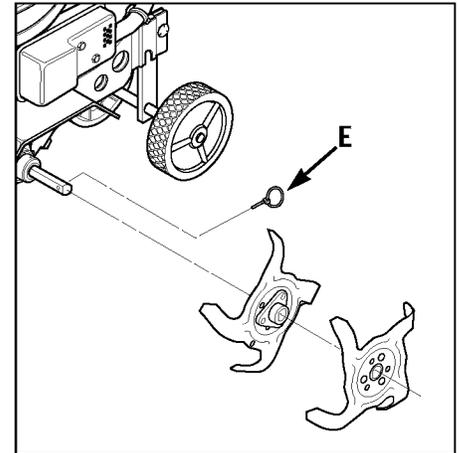

Figure 3: Remove ring lock pins and tines from both sides of the tine shaft. Keep left and right-side tines separated and marked for easier reinstallation.
- Flip open the ring on the two ring lock pins (E, Figures 3 and 4) and remove the ring lock pin on each tine shaft.
- It is important for proper tilling performance that the tine sections be later reinstalled in their original patterns. Mark the position of each tine section (Left-Outer, Left-Inner, etc.) before removing them. Refer to Figures 3 and 9 for tine pattern information. See also *Tine Removal and Installation* in Section 5.